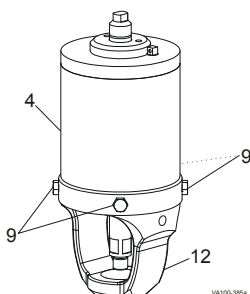

Figure 27: Remove Yoke
1. Remove the cap screws (Figure 27, item 9) and pull the yoke (item 12) from the actuator cylinder (item 4).